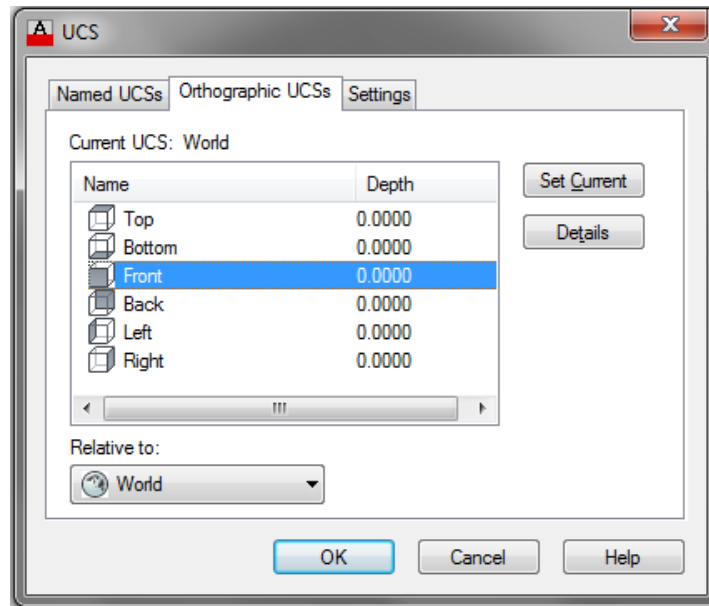

Figure Step 6
Step 6 Enable the Orthographic UCS's tab. Select Front and then click the Set Current button. (Figure Step 6)